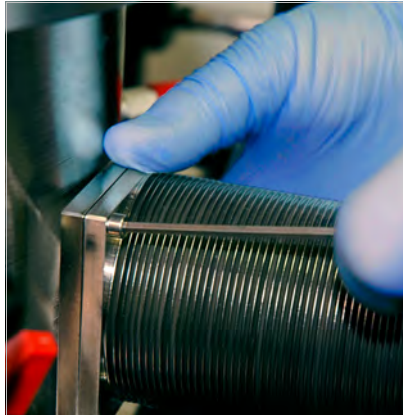

FIGURE 5-3 Loosely tighten two M4 screws to begin securing the bellows to the chamber
- a. Loosely tighten two of the M4 screws on diagonally opposing sides that attach the bellows to the chamber (FIGURE 5-3).